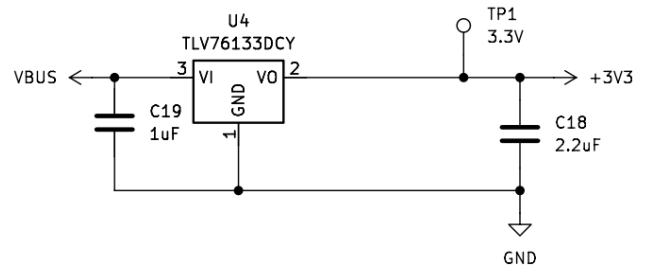

Figure 9. 3.3V Regulation for ESP32
3.3V Linear Regulator (Figure 9)